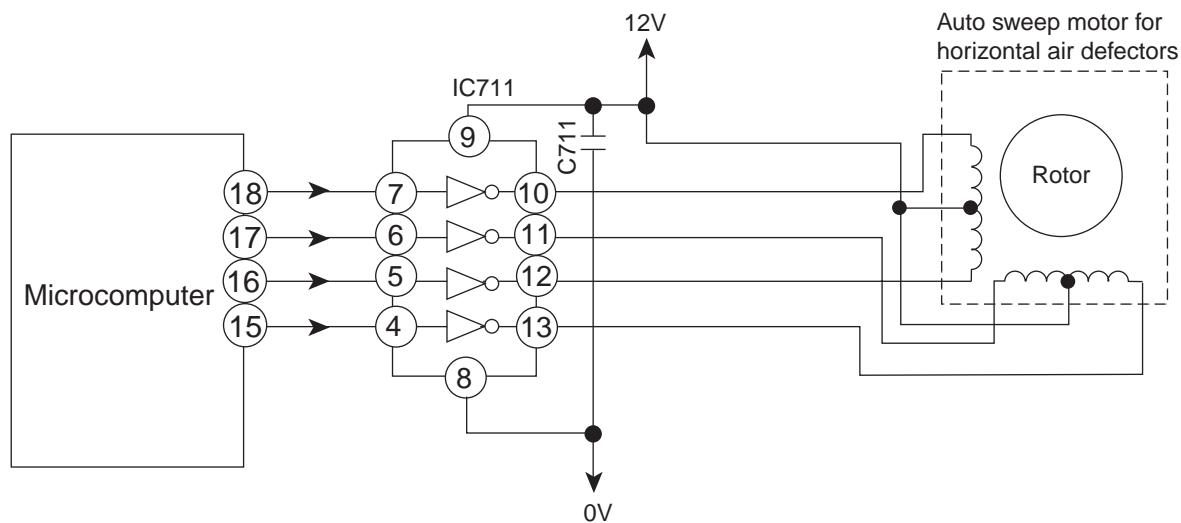
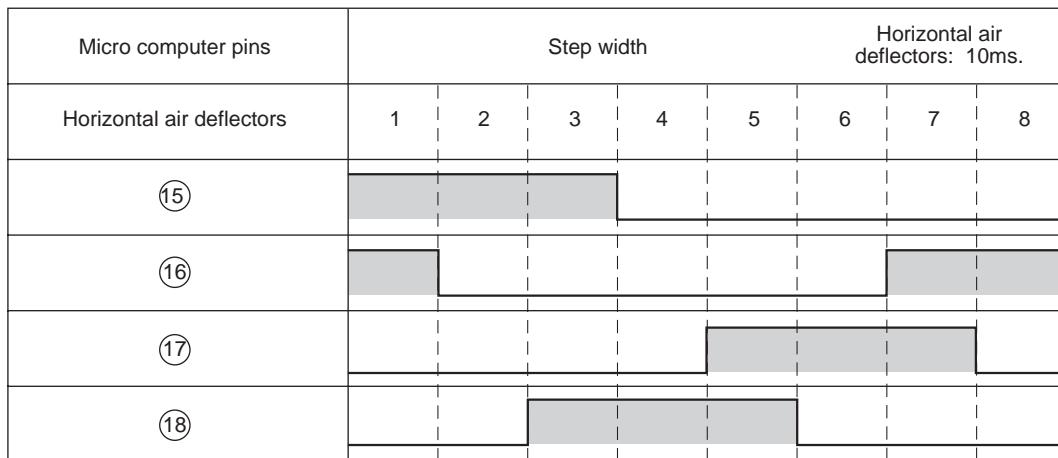

Fig.4-1
Fig.4-2 Microcomputer Output Signals
- Fig. 4-1 shows the Auto sweep motor drive circuit; the signals shown in Fig.4-2 are output from pins (15) – (18) of microcomputer.
- As the microcomputer's outputs change as shown in Fig.4-2, the core of the auto sweep motor is excited to turn the rotor. Table 4-1 shows the rotation angle of horizontal air deflectors.